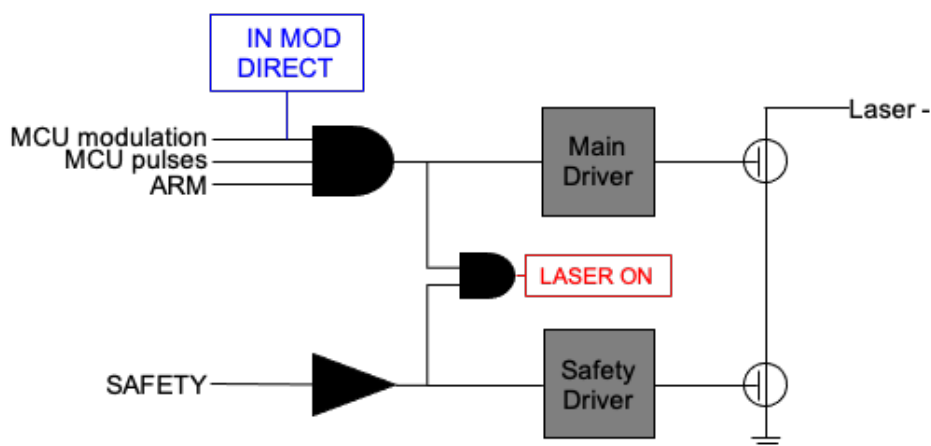

Figure 6.3: Simplified driver connection schematic
- IN_ARM Interlock for the main gate driver. Schematized in Fig. 6.3
- IN_SAFETY Interlock for the safety gate driver. Schematized in Fig. 6.3
The pulse settings defined in the GUI are output from the microcontroller and input to the driver. The driver itself consists of two identical arms, referred to as SAFETY and ARM, both of which must be enabled for laser output. When this is the case, the OUT_LASER_ON pin effectively provides a TTL signal with the modulation input to the transistor drivers. Fig. 6.3 depicts the parallel driver chips, OUT_LASER_ON signal, as well as the optional external modulation input IN_MOD_DIRECT as described in Sec. 6.2 below.